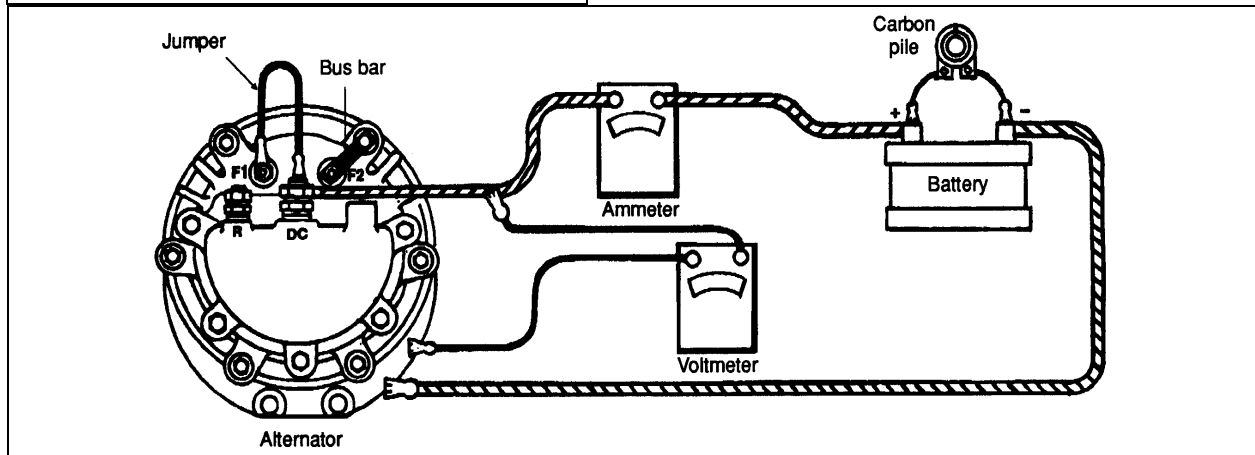

FIGURE 21: CONNECTIONS FOR CHECKING ALTERNATOR OUTPUT
1. Start the engine and momentarily connect a jumper from the "F1" field terminal to "DC (+)" terminal. For connections, refer to Figure 21.